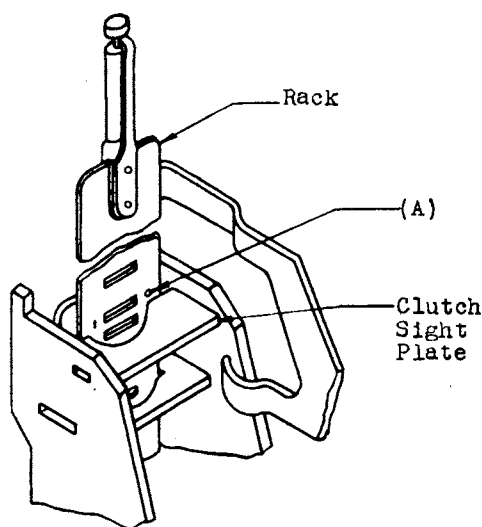

Fig. 1
- 1.04 Rack Notch Number - Fig. 1 (A) - This is the number specified to indicate the position at which the rack must rest on the clutch pawl when a requirement is checked or the corresponding readjustment made. Unless otherwise specified, to set the rack on the pawl at the desired notch, the rack notch number specified must appear just above the clutch sight plate. The illustration shows the position of the rack when the rack notch number specified is 10.